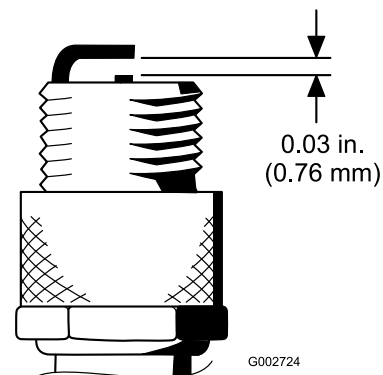

Figure 29
4. Set the air gap between the center and side of the electrodes at 0.76 mm (0.030 inch) as shown in Figure 29.